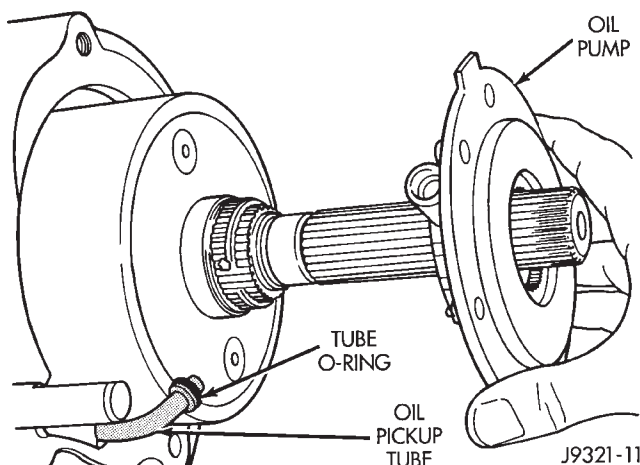

Fig. 60 Installing Oil Pump
(37) Install oil pump (Fig. 60).